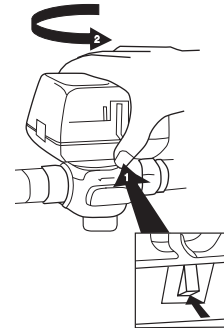

Fig. 3. Latch Mechanism to detach Actuator
1. The actuator head is automatically latched to the valve. Align the coupling hole in the bottom of the actuator with the valve stem. Press the actuator down towards the body with moderate hand force and turn the actuator counter-clockwise by 1/8 turn (45°) to line up the actuator with the piping. See Fig. 3.
4. The actuator head is automatically latched to the valve. To remove, press up on the latch mechanism with your thumb. It is located directly below the white manual open lever (see figure 3). Simultaneously press the actuator down towards the body with moderate hand force and turn the actuator counter-clockwise by 1/8 turn (45 degrees). Lift the actuator off the valve body.
5. Install the new actuator by reversing the process in (4).